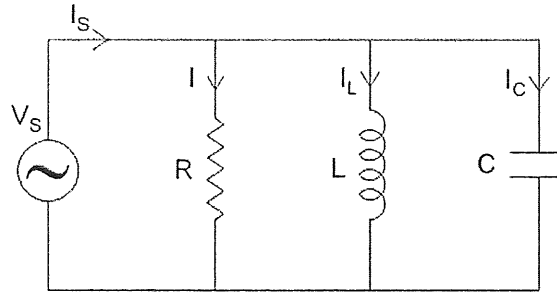

Figure 1
- a) Figure 1 illustrates a parallel tuned resonant circuit with $V_s = 135 \text{ V}$, $R = 75 \ \Omega$, $L = 0.55 \text{ H}$ and $C = 175 \ \mu\text{f}$ and $F = 300 \text{ Hz}$. Calculate the followings: